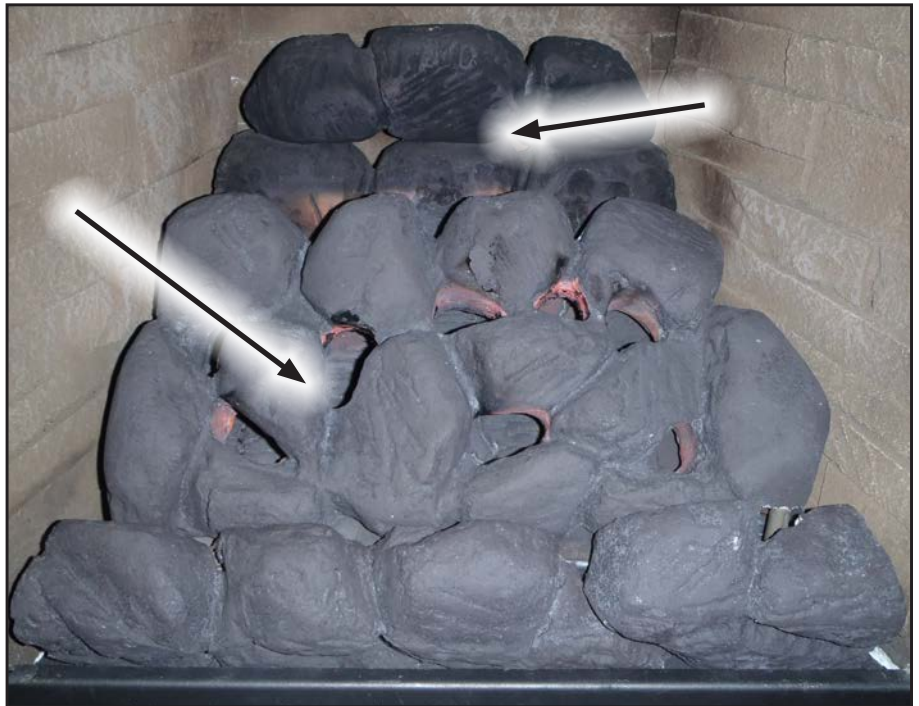

Figure 59. Third Stage Coal Set Installation.
Step 3: Next, install the set of three coal rocks on the locator pins at the top of the coal bed. The flat side of the rocks will face forward when installed correctly (see Figure 59). Finally, install the top coal bed by resting it on top of the lower coal bed ensuring it is properly centered. The front edge of the top coal bed will touch the back side of the front coal pieces and rest on top of the burner when correctly installed.